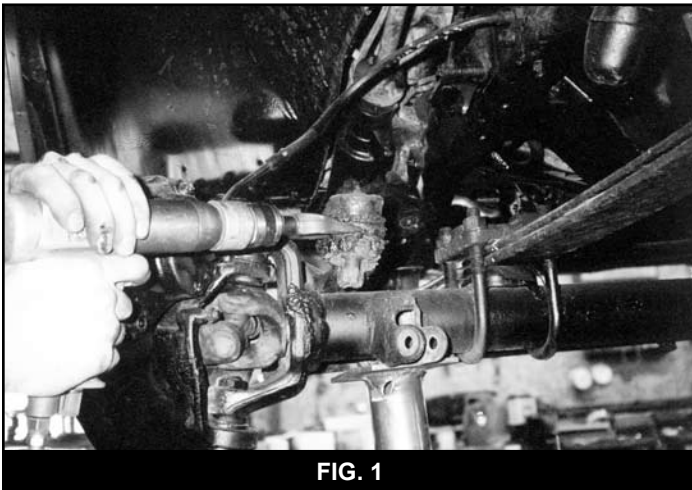

FIG. 1
5. Remove cotter pin and nut securing the drag link to stock steering arm. Use pickle fork to de-seat tapered stud from arm. (Fig. 1)